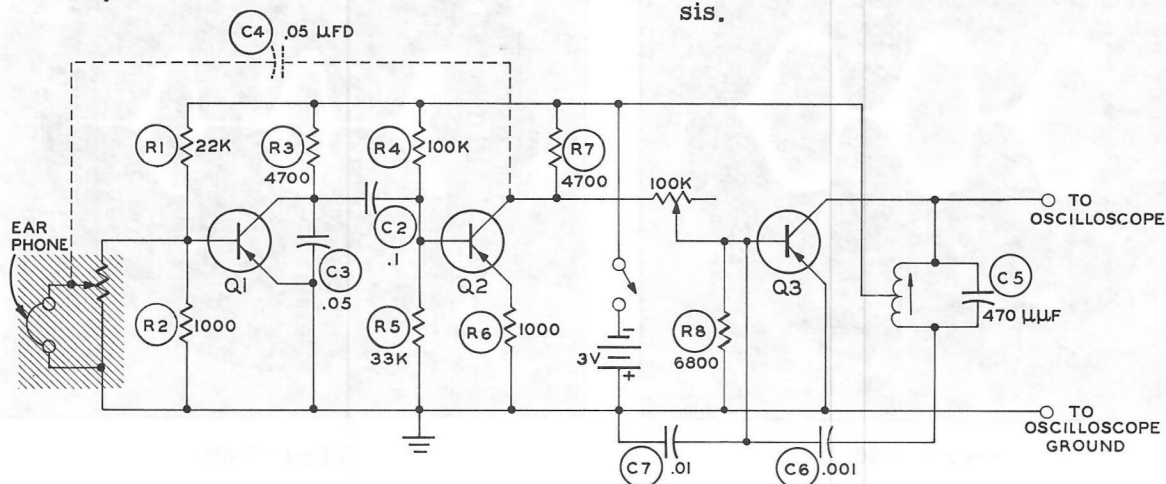

Figure 3-99
Refer to Figures 3-99 and 3-100 for the following steps.
- ( ) Connect one lead of the earphone to lug 3 of terminal strip B and the other to lug 1 of terminal strip D. The circuit diagram is shown in Figure 3-99.